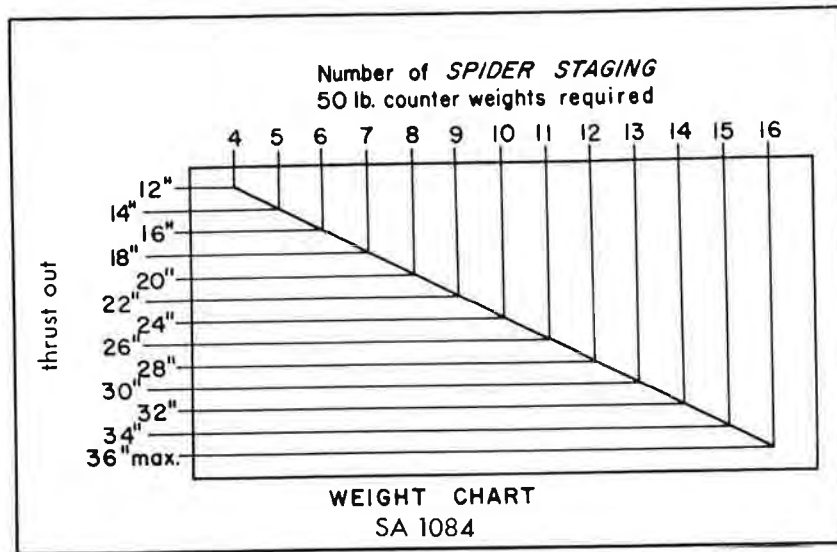

Figure 46
4. Determine the proper number of counterweights from counterweight chart decal. See Fig. 46. Place the first two counterweights down to support the end of the beam. The rest of the counterweights can be installed in the up position. Place the bolt and nut in the hole in the end of the bracket to insure the counterweights do not accidentally slip off.